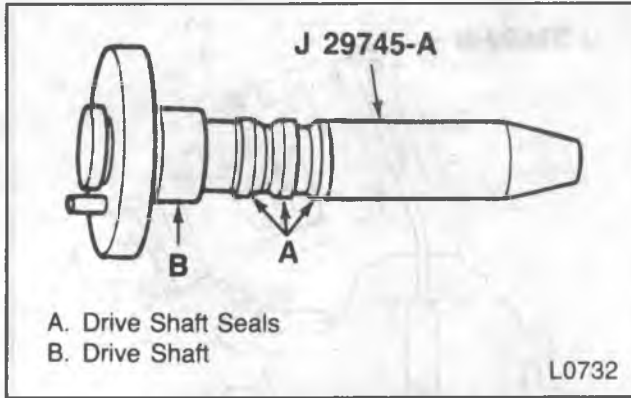

Figure 34 — Drive Shaft Seal Protector
3. The other black seal using J 29745-A (figure 34).